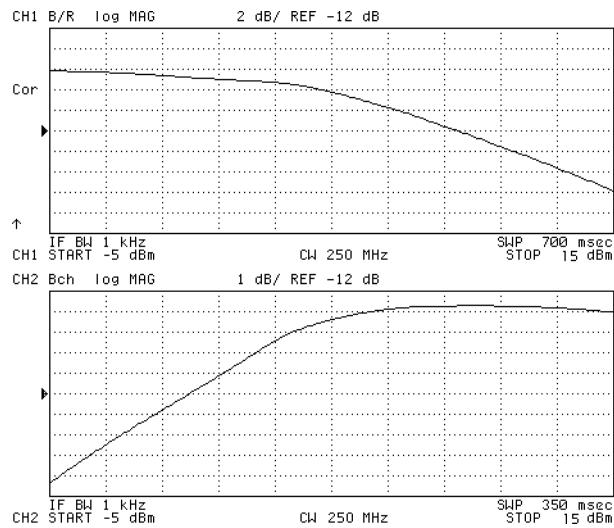

Figure 10-16.
6. Press [Display] DUAL CHAN on OFF to ON off to display both channel (see Figure 10-16). Note that you must subtract 6 dB from the input value readout. This is necessary because the input signal is attenuated by the power splitter that is between the RF OUT and the DUT.